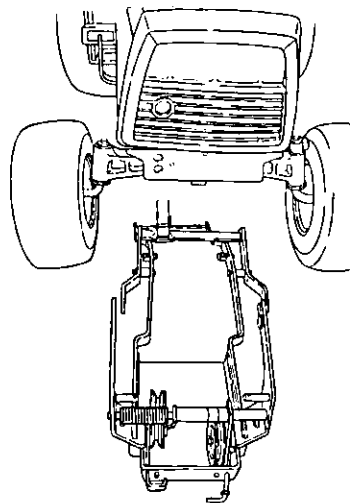

Figure 8
2. Position the lift frame assembly in front of the tractor with the front hanger assembly facing away from the tractor grille as shown in Figure 8.